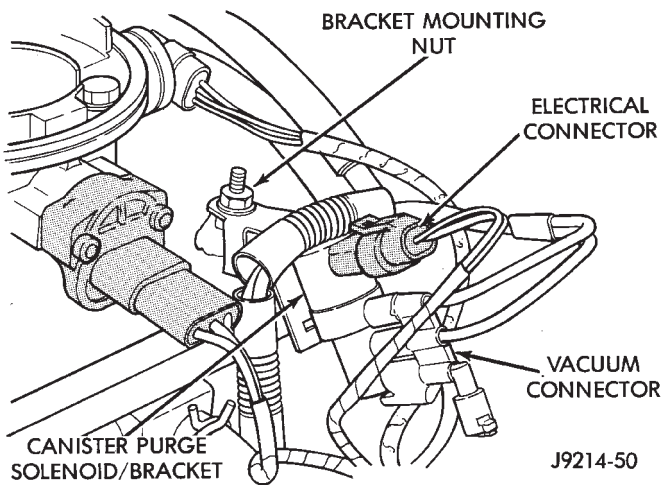

Fig. 11 EVAP Canister Purge Solenoid
- (8) Remove EVAP canister purge solenoid/bracket assembly (Fig. 11) from intake manifold.
- (9) Disconnect two fuel lines at rear of fuel rail. Refer to Fuel Tubes/Lines/Hoses and Clamps in the Fuel Delivery System section of this group.